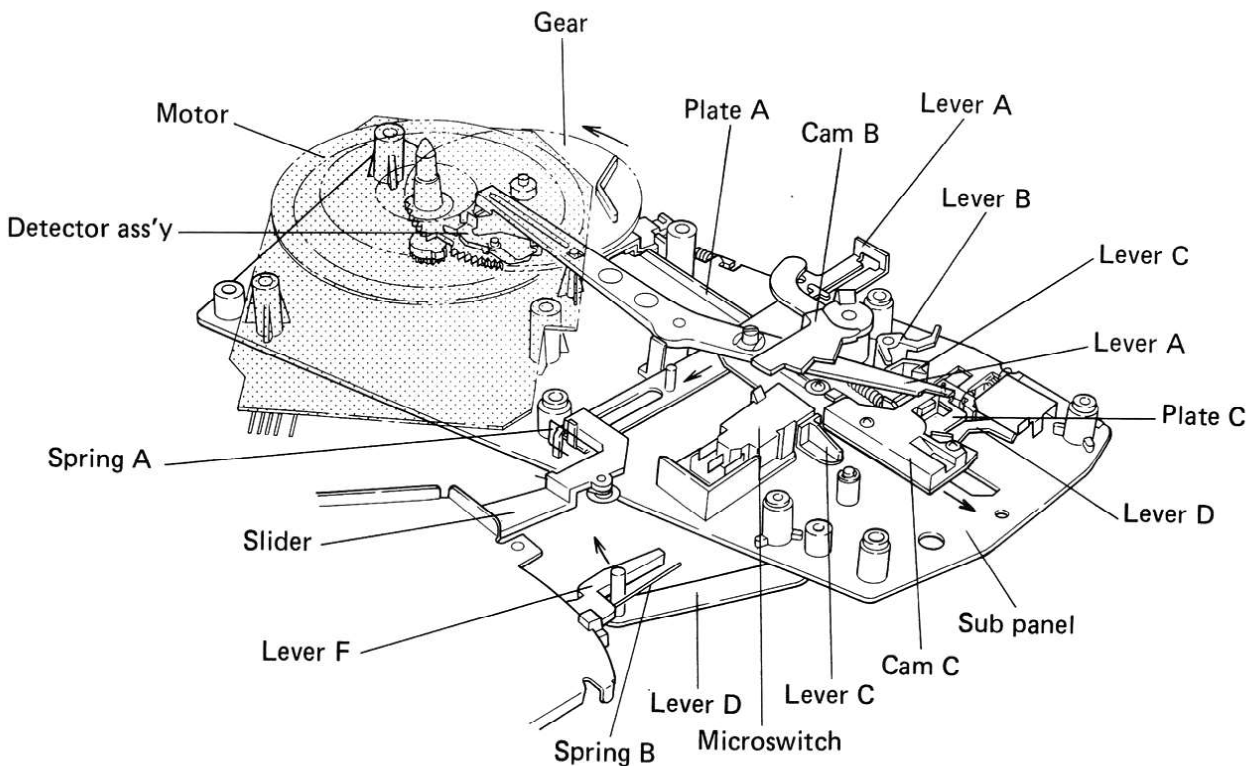

Fig. 8-6
Fig. 8-6 shows the PL-400 in the stationary state with the motor stopped and the tonearm upon the arm rest.
1. When the START/STOP button is pressed, lever D will be shifted towards the left by spring B of lever F (Fig. 8-6).